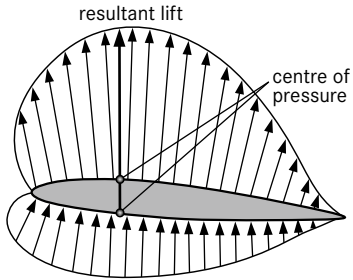
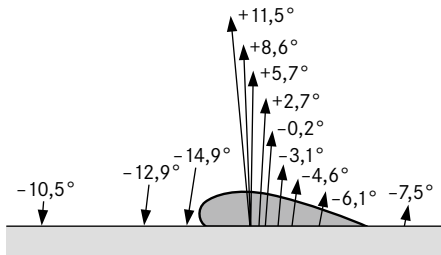
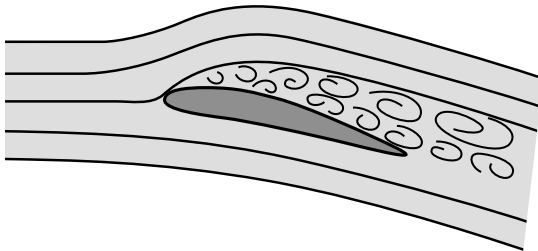

Figure 1.4 Pressure distribution diagram
Figure 1.5 Variation of forces and position of centre of pressure with angle of attack
Figure 1.6 Formation of Stall
2. When the wing of an aircraft moves forward through the air, the flow of air along the lower surface arrives at the trailing edge before the flow along the upper surface. The lower surface flow attempts to expand around the trailing edge. As a result of this, a vortex is formed. The rotation of this vortex accelerates the upper surface flow, so that the length of time required for a particle of air to move from the leading edge to the trailing edge becomes the same for the upper and the lower surface flow. The increased velocity of the upper surface flow eliminates the formation of a vortex by the lower surface air at the trailing edge, and it produces a lower pressure at each point on the upper surface than exists at the corresponding points on the lower surface. It is this difference in pressure that produces the lift. The distribution of lift along the cross-section of a wing is illustrated by the pressure-distribution diagram (Figure 1.4). The magnitude of the forces changes with the angle of attack (or angle of incidence), i.e. the angle between the direction of the air flow and the chord line of the wing (Figure 1.5). The resultant aerodynamic force acts at the centre of pressure (Figure 1.4); its position varies with the angle of attack. The stability of an aircraft is significantly determined by the displacement of the centre of pressure. With an increasing angle of attack, this point moves forward. When the angle is increased beyond the value that produces maximum lift, “stall” occurs: this results in loss of flying speed and lift and finally loss of control; the air flow detaches itself from the upper surface (Figure 1.6).